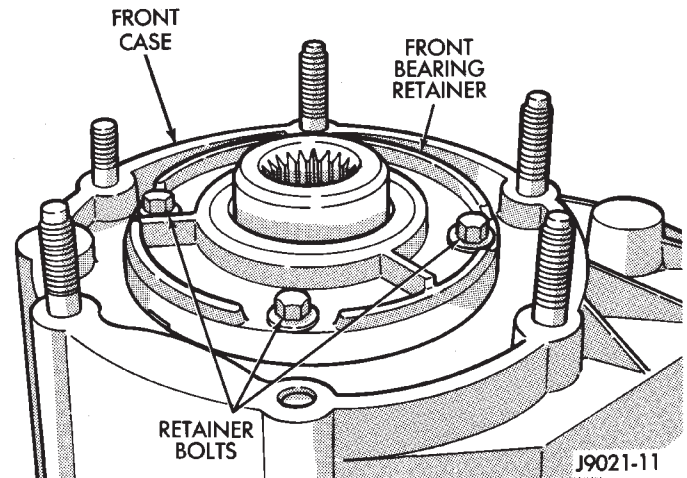

Fig. 31 Front Bearing Retainer Bolts
(1) Remove front bearing retainer attaching bolts (Fig. 31).